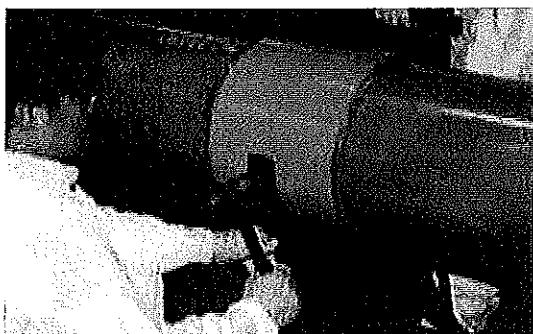
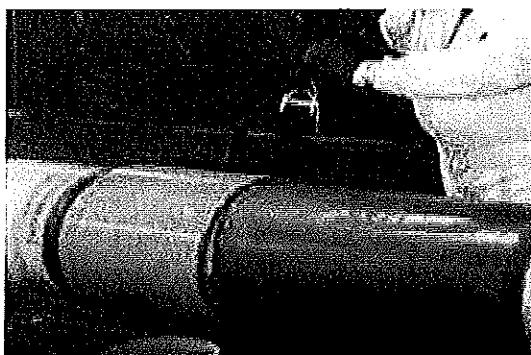

Figure 16
Figure 17
- 4.15 Secure the cinch bar strap to the dual lock (Figure 16). Position the cinch bar and apply steady pressure (approximately 80 – 100 ft. lbs.(11 – 14 Kg m). Hold for about one minute until excess material extrudes from the edges of the Clock Spring® (Figure 17).